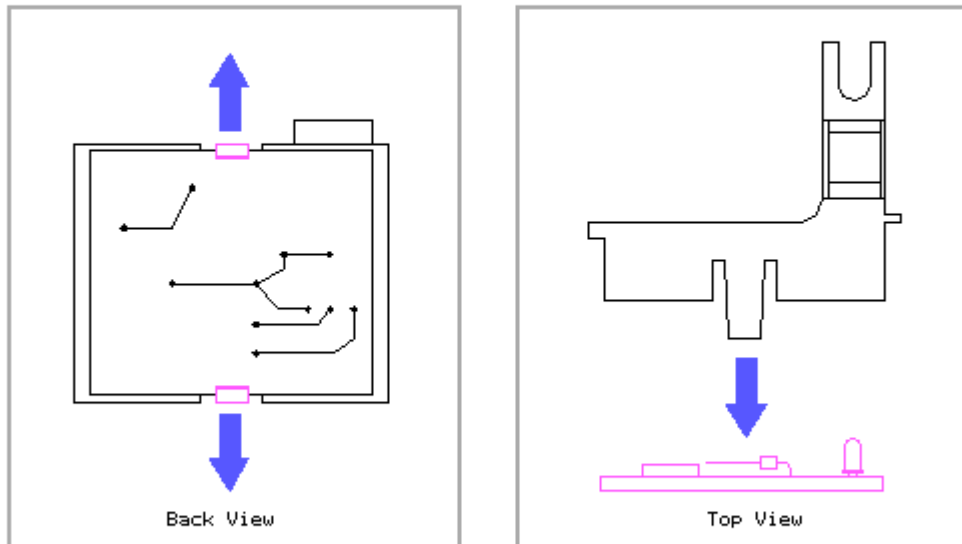

Figure 9-45. Removing the PCMCIA Card Sensor Emitter/Receiver Board from the Frame
2. To remove the emitter and receiver boards from their frames, gently pull back on the plastic snaps and lift the boards out (Figure 9-45).